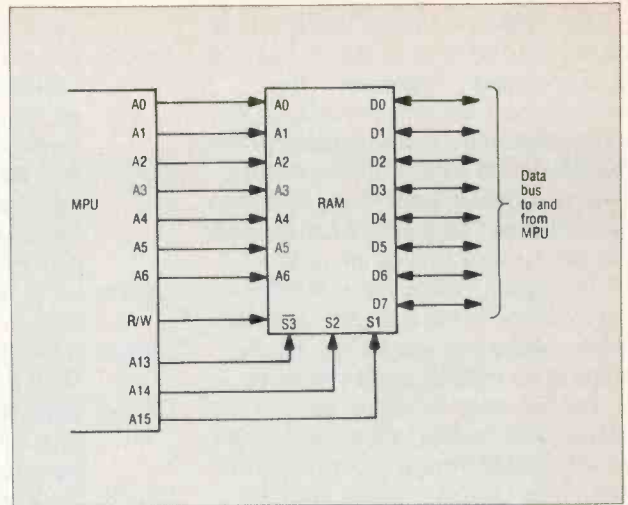
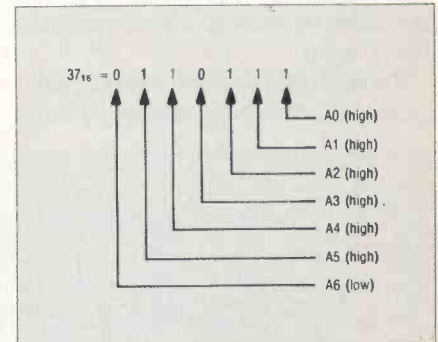

Fig. 4 MPU connections to the RAM
Fig. 5 Memory location 37_{16}
The relationship between the MPU and the RAM is illustrated in Fig. 4. The R/W line shown is a signal line from the MPU to inform external devices that the MPU wants (1) to read data, if this line is high, or (2) send (write) data, if it is low.
To expand on the word selection process of a RAM, let's assume that the chip selects and word selects are tied to the MPU address bus as shown in Fig. 4. If A14 and A15 are put in a high state and A13 in a low state while A0-A6 are in a low state, the contents of memory location 000 0000 will be gated to the data bus if the MPU requests the contents of that location (the R/W line will be high). If the MPU desires to read the contents of location 0011 0111 (37₁₆), the R/W line will be in the high state address lines A14 and A15 will be high and A13 will be low; and address lines A0, A1, A2, A4, and A5 will be high (see Fig. 5). The contents of this location would then be placed on the data bus to be transferred to the MPU.